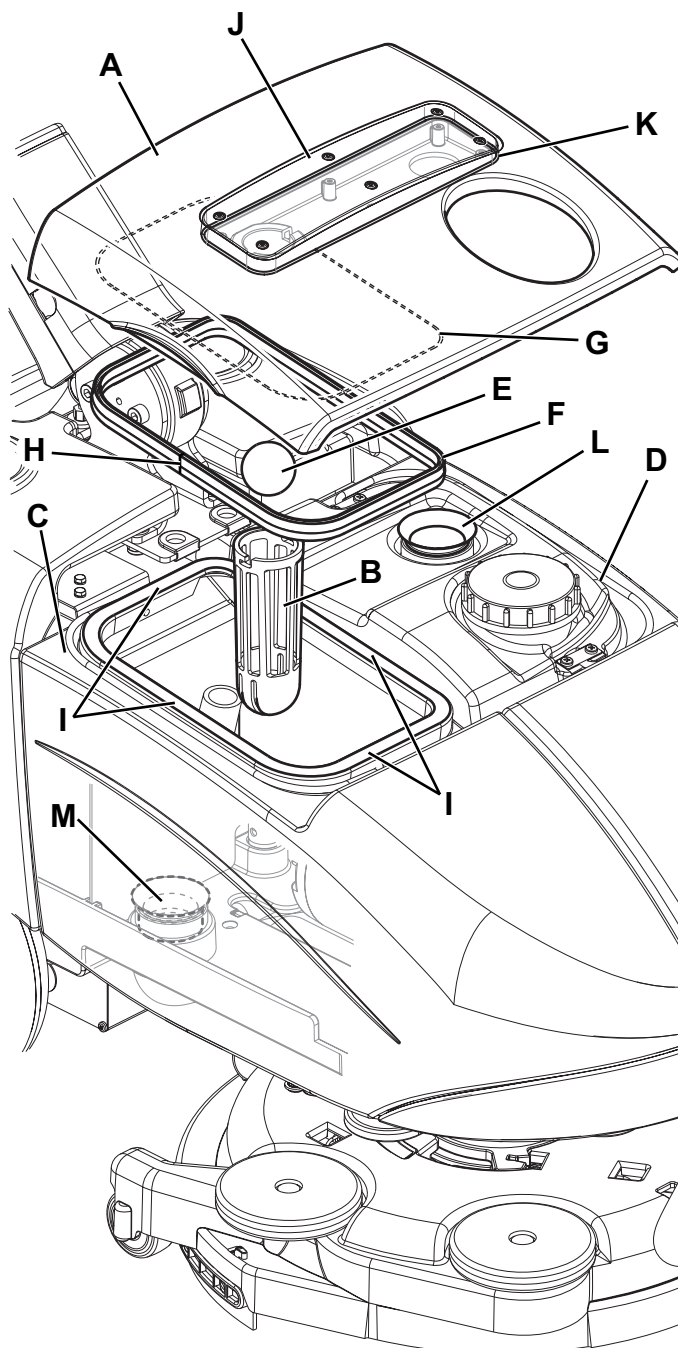

Figure 7
2. Check that the function selection knob (31) is turned to "0" and disconnect the battery connector (7).
3. Remove the cover (A, Fig. 7), clean and wash the cover and the vacuum grid (B) with clean water.
5. If necessary, disassemble the grid (B) and remove the float (E), than clean with care and reinstall.
6. Check the recovery tank cover gasket (F) for integrity.
3. Open the cover (A, Fig. 7) and check the vacuum system motor gasket (L) for integrity.